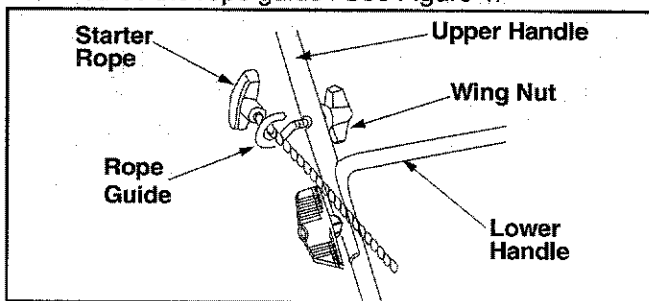

Figure 4
- Move rope guide to the first hole above the lower handle on right side. The wing nut loosens and secures the rope guide. See Figure 4.